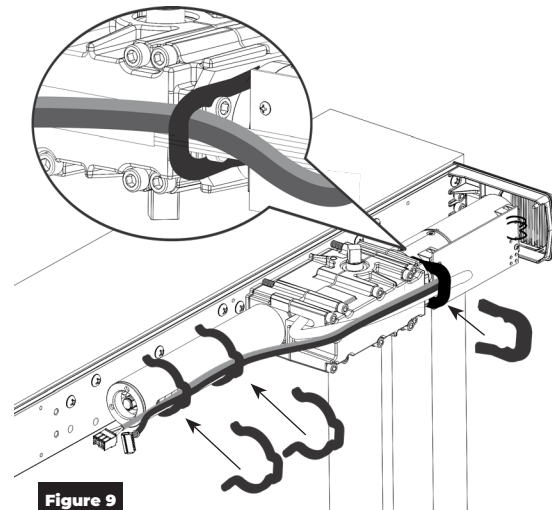

Figure 9
2. Using three (3) supplied cable management clips, secure cables along closer body. (Figure 9)